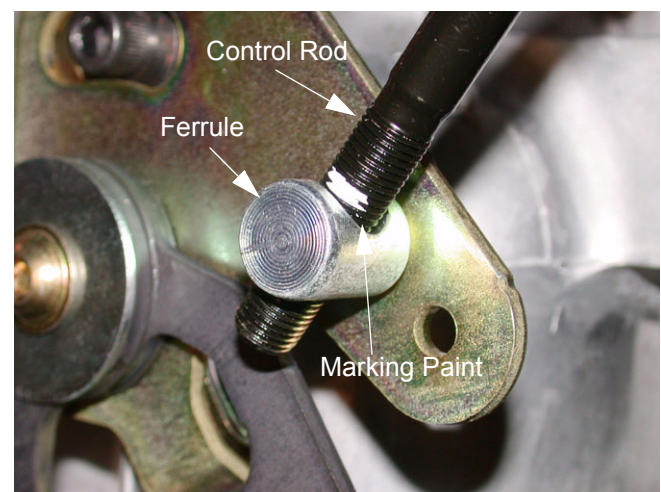

Figure 9.6
- 9.6. Mark the lap bar control rod threads near the clevis pin. See Figure 9.6.